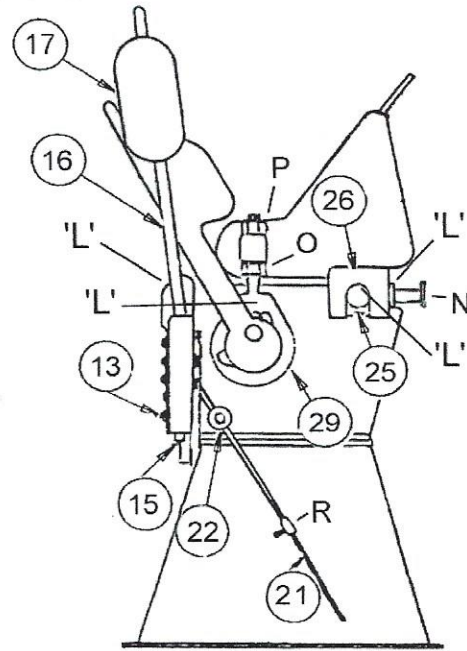

Fig. 2
To level machine – loosen clamp nuts, Items O & P (fig. 2) so top leaf sets loosely upon the bottom. Check the gap between the top and bottom at each end of machine. It should be fairly equal. If one end has less daylight (gap), shim under the rear of the leg at the same end until daylight is equal.
When clamping and unclamping the top leaf - if the top leaf holder, Item 26 (fig. 2) lifts off of the top adjust slide nut, Item 25 (fig. 2) place a shim under the rear of the leg on same side that is lifting.
There are four lubrication points marked with [L] depicted in the Right Side View (fig. 2).
Use a general purpose grease to lubricate between the top leaf holder, Item 26 (fig. 2) and the top adjust slide nut, Item 25 (fig.2) once a week.
TO ADJUST - unclamp top leaf slightly. Adjust top leaf by turning adj. screw handle N (fig. 2).
TO ADJUST - loosen link adjust nuts, Items O & P (fig. 2). Clamp top leaf in place. Tighten link nut (P) until firm pressure is applied to material. Snug link nut (O).
Counterweight, Item 17 (fig. 2) can be raised or lowered on counterweight rod, Item 16 (fig. 2). The rod can also be rotated in the hinge socket to counterbalance the bending leaf.
Adjustable gauge stop, Item R (fig. 2) can be positioned at any point along the stop rod, Item 21 (fig. 2) to limit travel of the bending leaf.
ENDS - If the sheet bends over further on one end than the other, set the top leaf back on the end where the sheet is over bending. **TO ADJUST** - Unclamp top leaf slightly. Turn top adjust handle, Item N (fig. 2) clockwise on side that is over bending.
When the bending leaf is in the down position, the edge of the insert/angle bar should be 1/64" below the bottom bar, Item 5 (fig. 8) on each end of the machine. TO ADJUST - Loosen the hinge mounting bolts, Item 13 (fig. 2). Raise or lower the bending leaf, Item 1 (fig. 8) using stop bolt, Item 15 (fig. 2) located at the bottom of the hinge. Tighten the hinge mounting bolts.